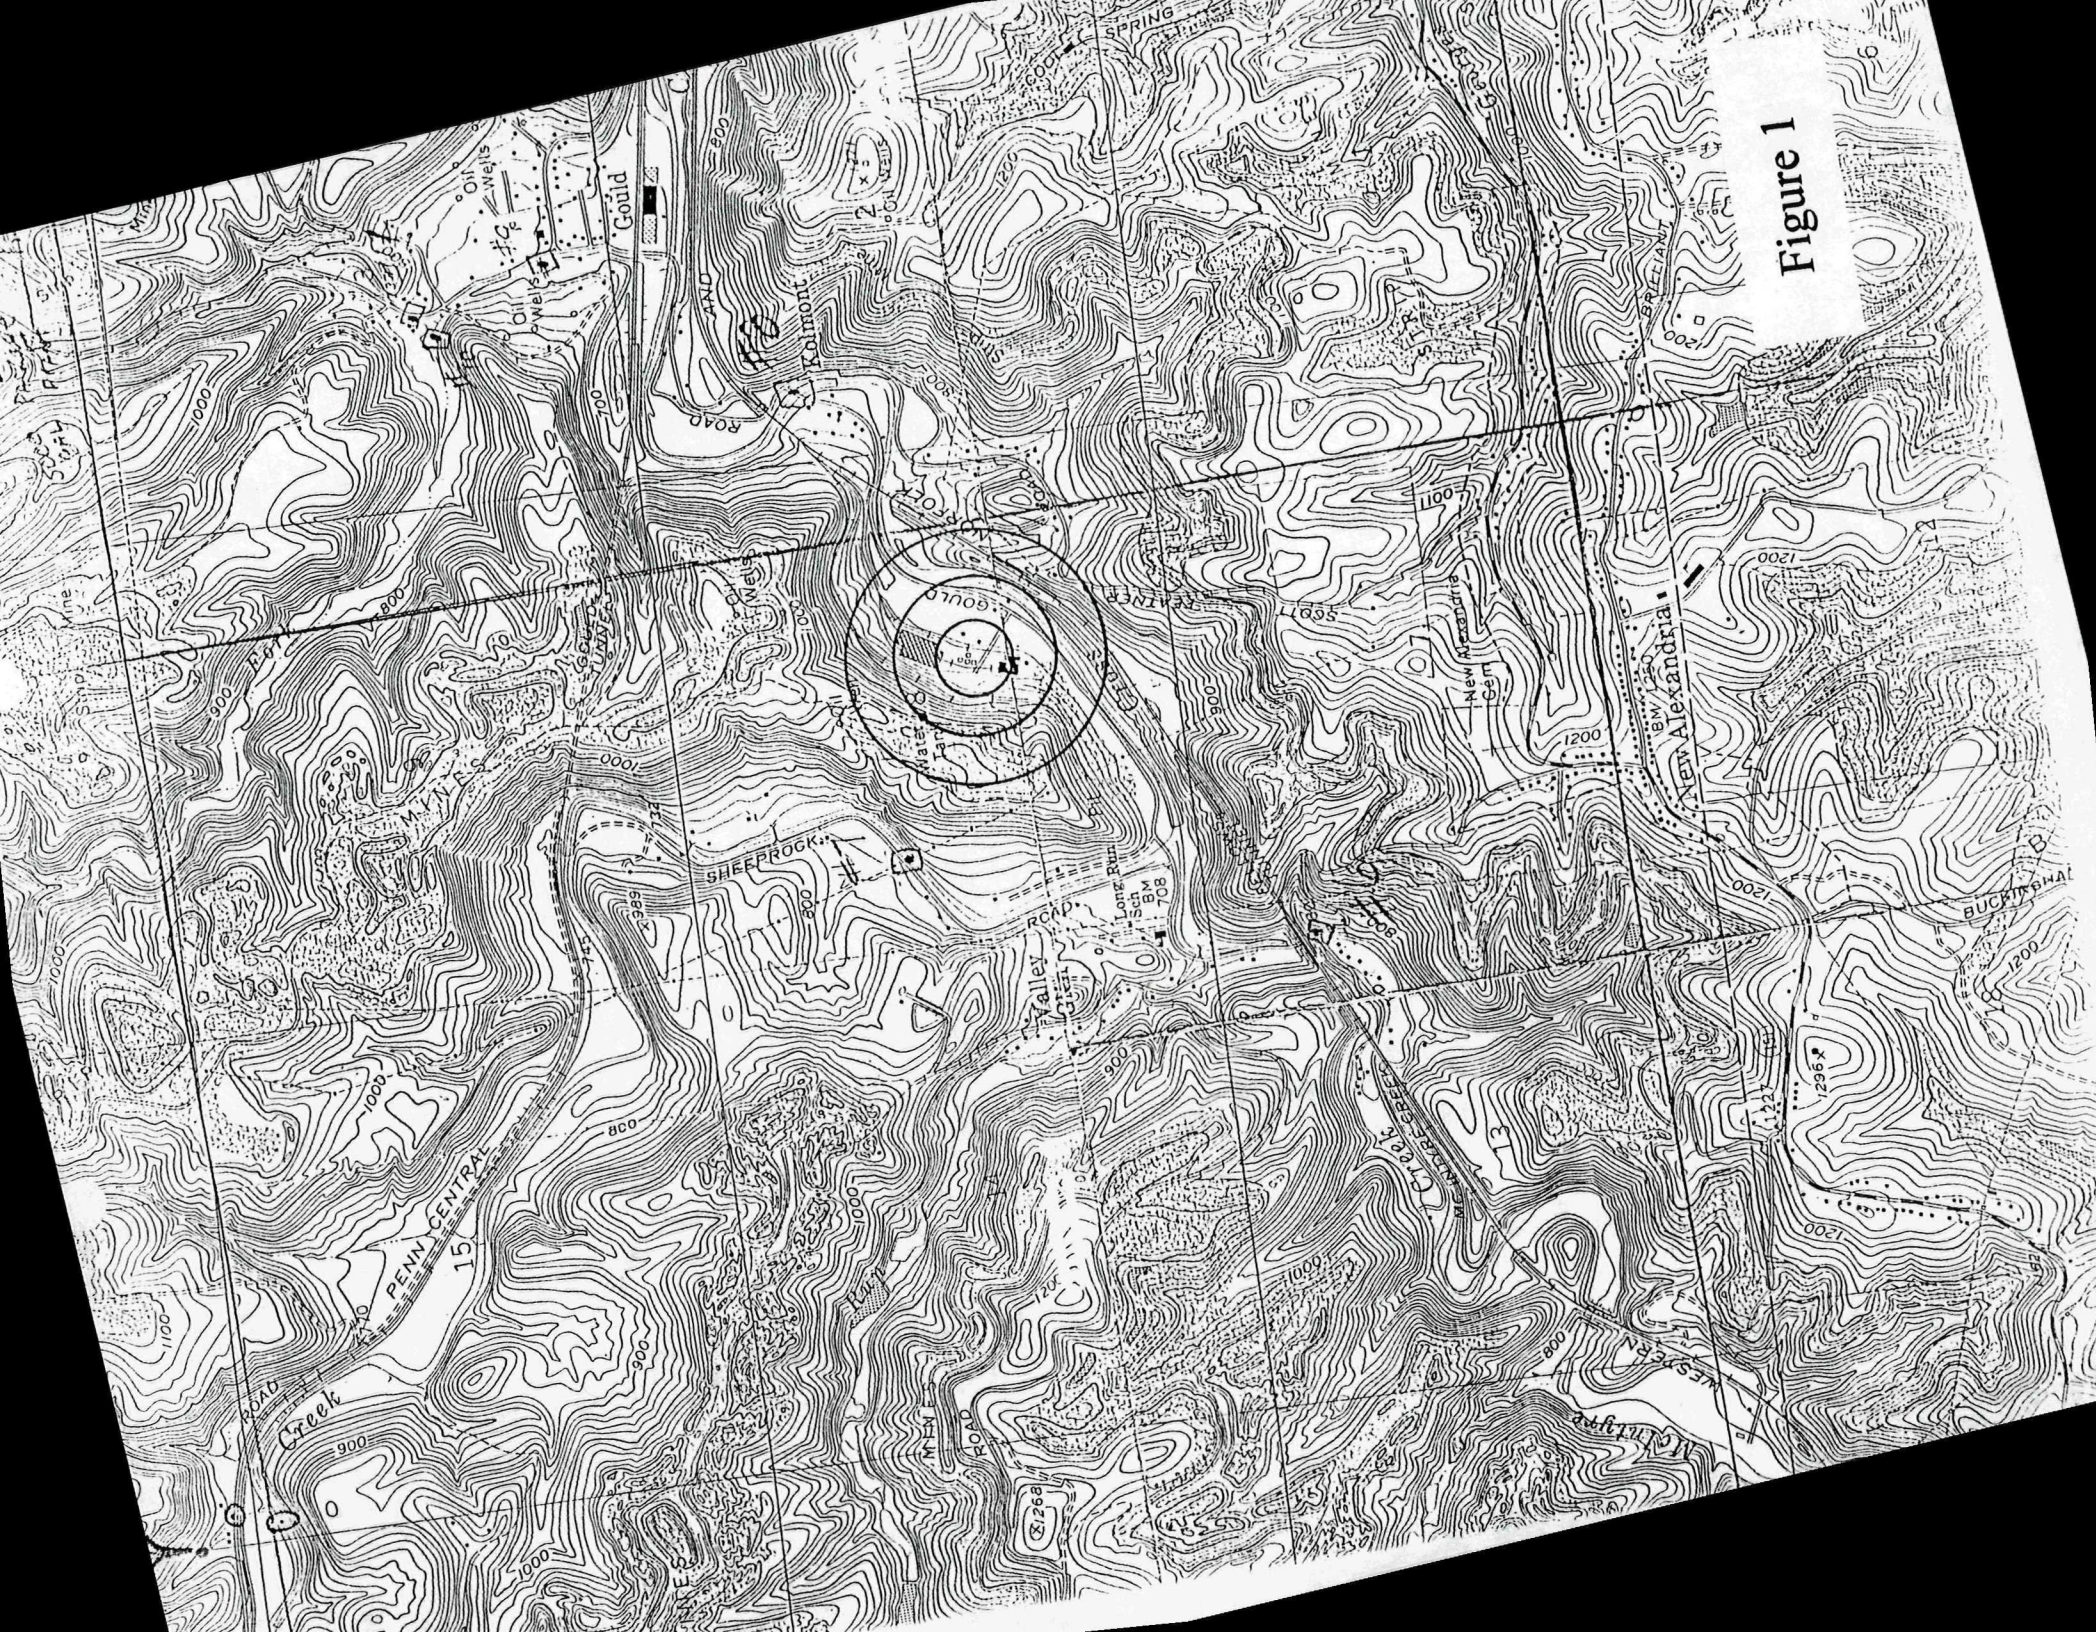

Figure 1
- Figure 1: Area Map (Topo Map)